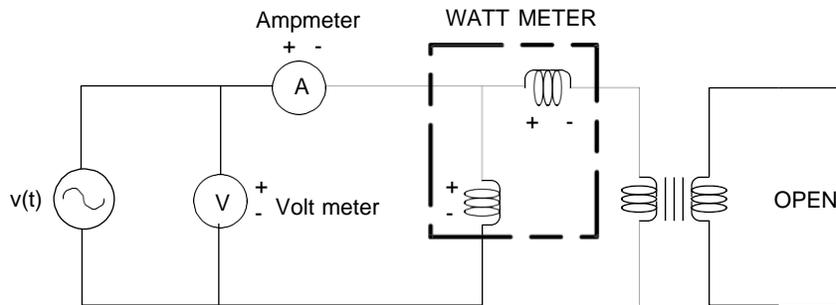

Figure 4.1
- (1) Connect diagram in Figure 4.1.
- (2) Start applying voltage from 0 to approximately 120 volts.
- (3) Obtain readings for;  $P_{oc}$ ,  $I_{oc}$ ,  $V_{oc}$  and then turn off the voltage supply.